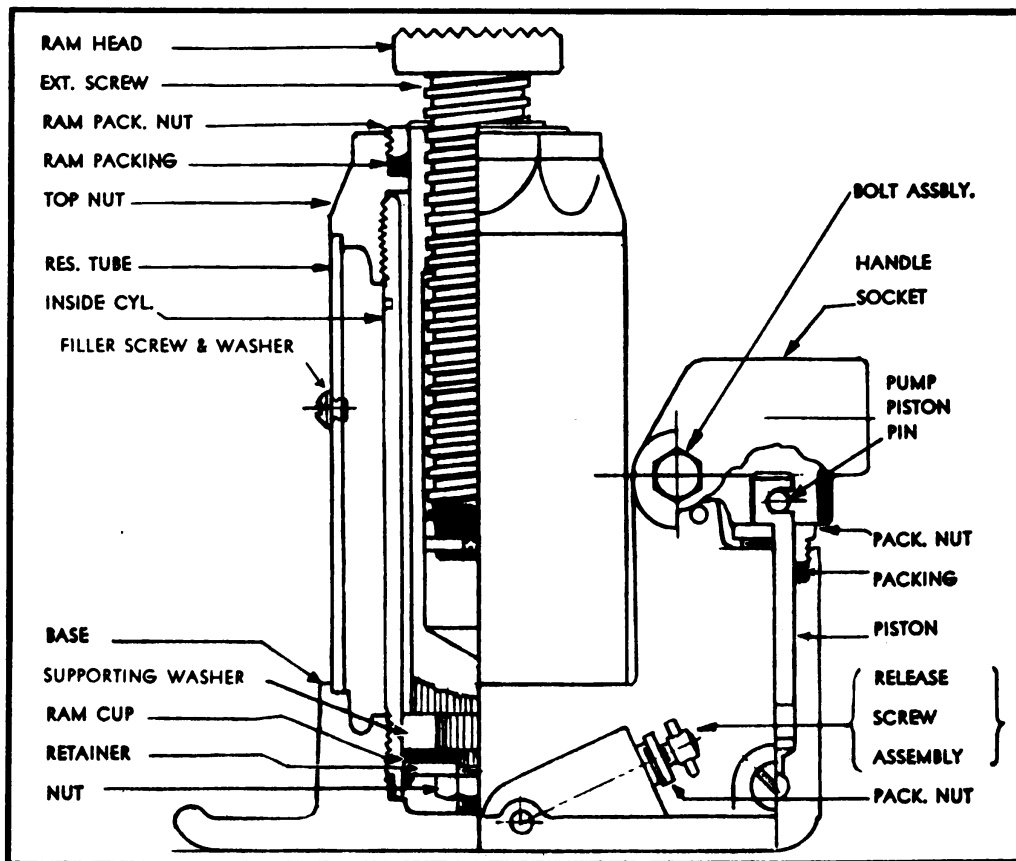

FIGURE 67. SUPPORT JACK
e. *Piston.*—(1) The piston of every jack will need replacing depending upon the amount of work it is put to.
(2) A worn piston can be detected by leakage of oil when lifting a load (Figure 67).
(3) To install a new piston first remove jack filler screw to expel excess air.
(4) Replace filler screw.